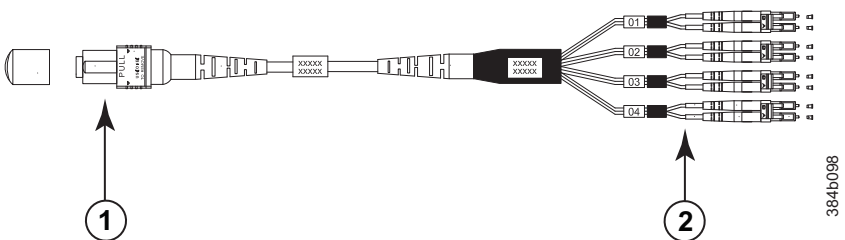

Figure 14. QSFP-SFP/LC break-out/split-out cables
- QSFP-SFP/LC break-out/split-out cables (Figure 14)